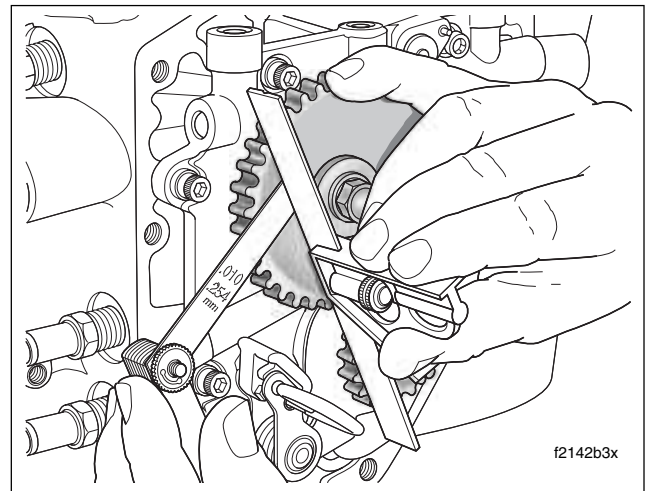

Figure 3-53. Check Alignment of Crank and Primary Cam Sprocket Faces
- e. Place a straightedge across the crank and primary cam sprocket faces. Try to insert a 0.010 inch feeler gauge between the straightedge and each sprocket face. See Figure 3-53. If the feeler gauge does not fit at either location, then proceed to step 22(f).